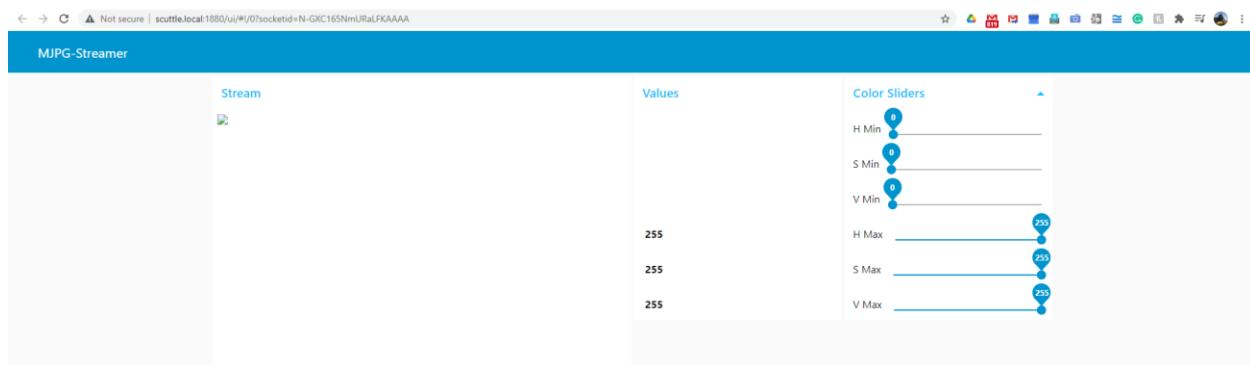

Figure 20
d. Now click the “Deploy” button in the upper right of NodeRed and then click the button that is circled in red within Figure 19, and it should open a new tab in your browser with six sliders like Figure 20 below.